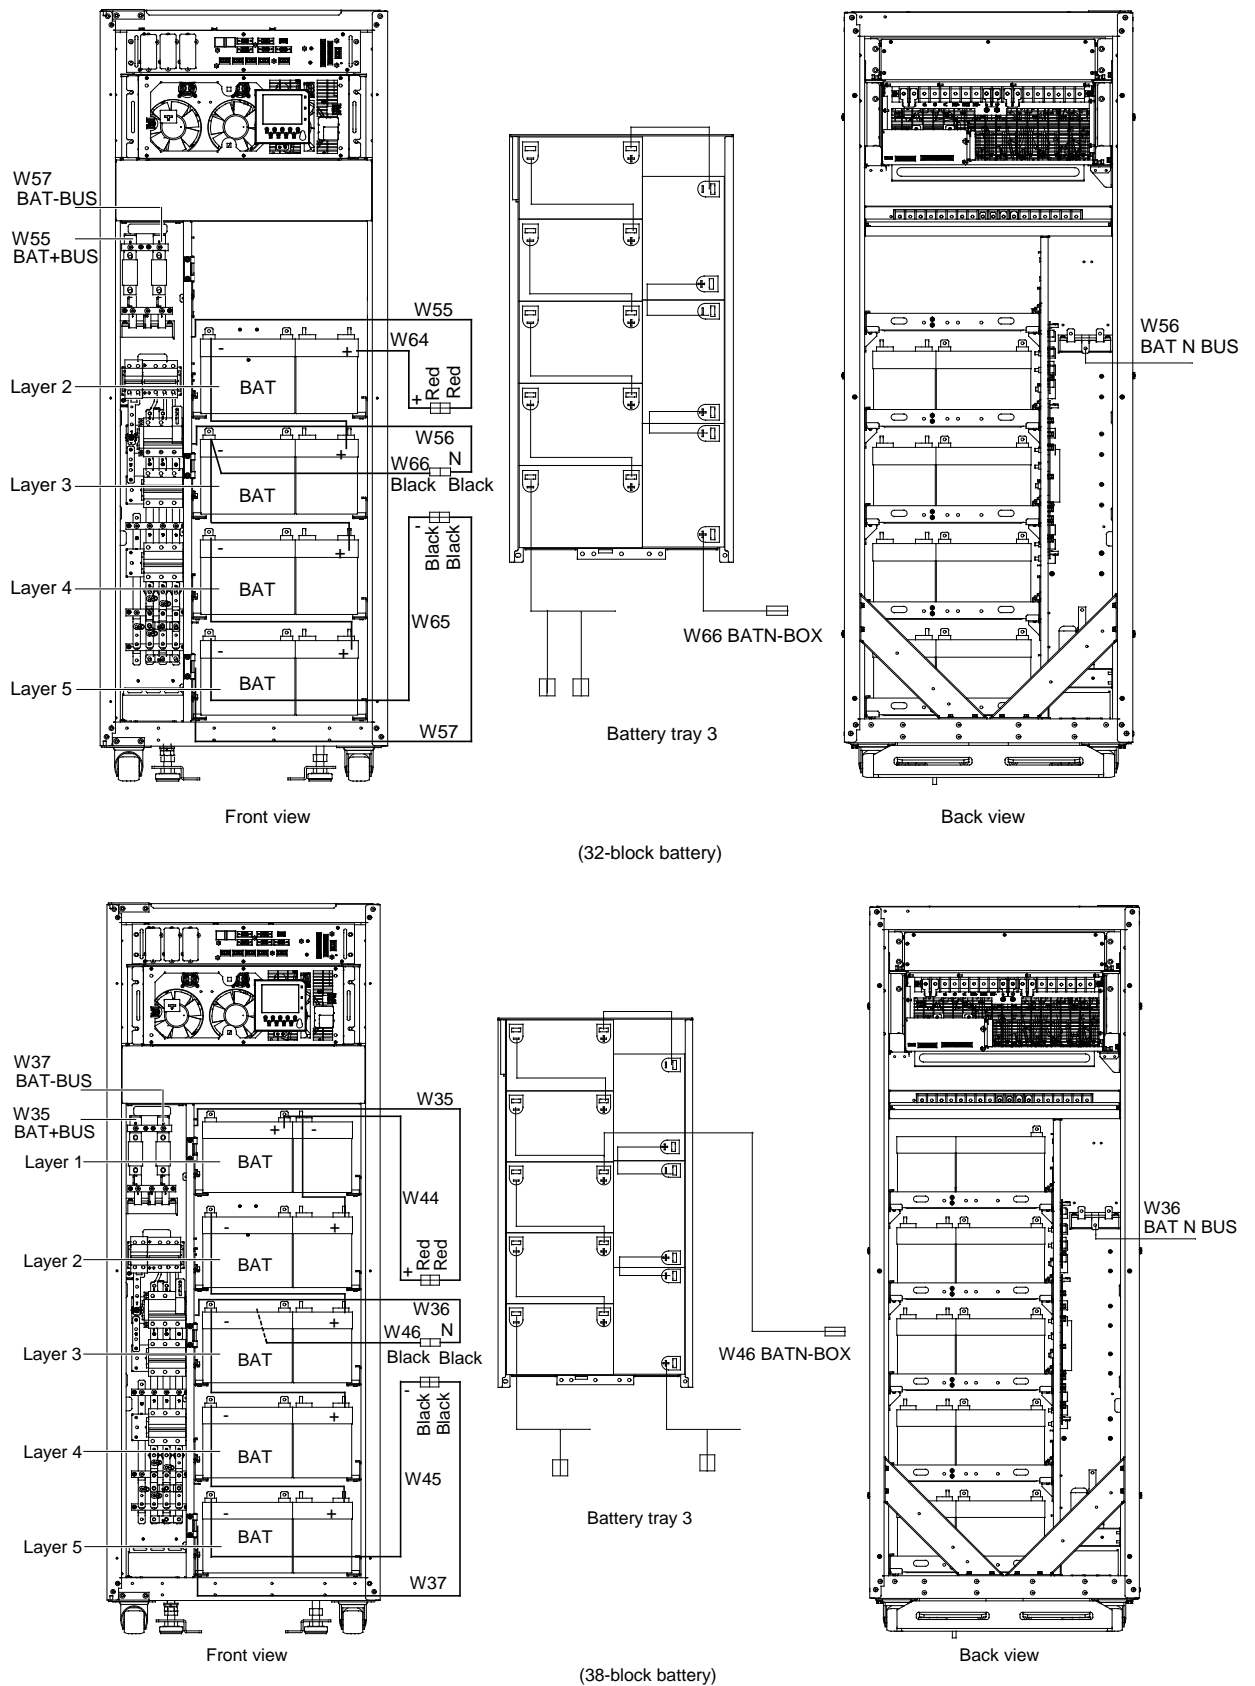

Figure 8-5 Connection between battery trays and batteries
4. According to Figure 8-5, insert the trays with batteries installed into the battery compartment one by one, and ensure the No.1 ~ No.5 battery trays correspond to No.1 ~ No.5 layers (from top to bottom) of the battery compartment, otherwise the battery voltage may be abnormal.
5. According to Figure 8-5, connect the positive terminal of battery tray 1 to cabinet positive terminal; connect the neutral line terminal of battery tray 3 to cabinet neutral line terminal, and connect the negative terminal of battery tray 5 to cabinet negative terminal.